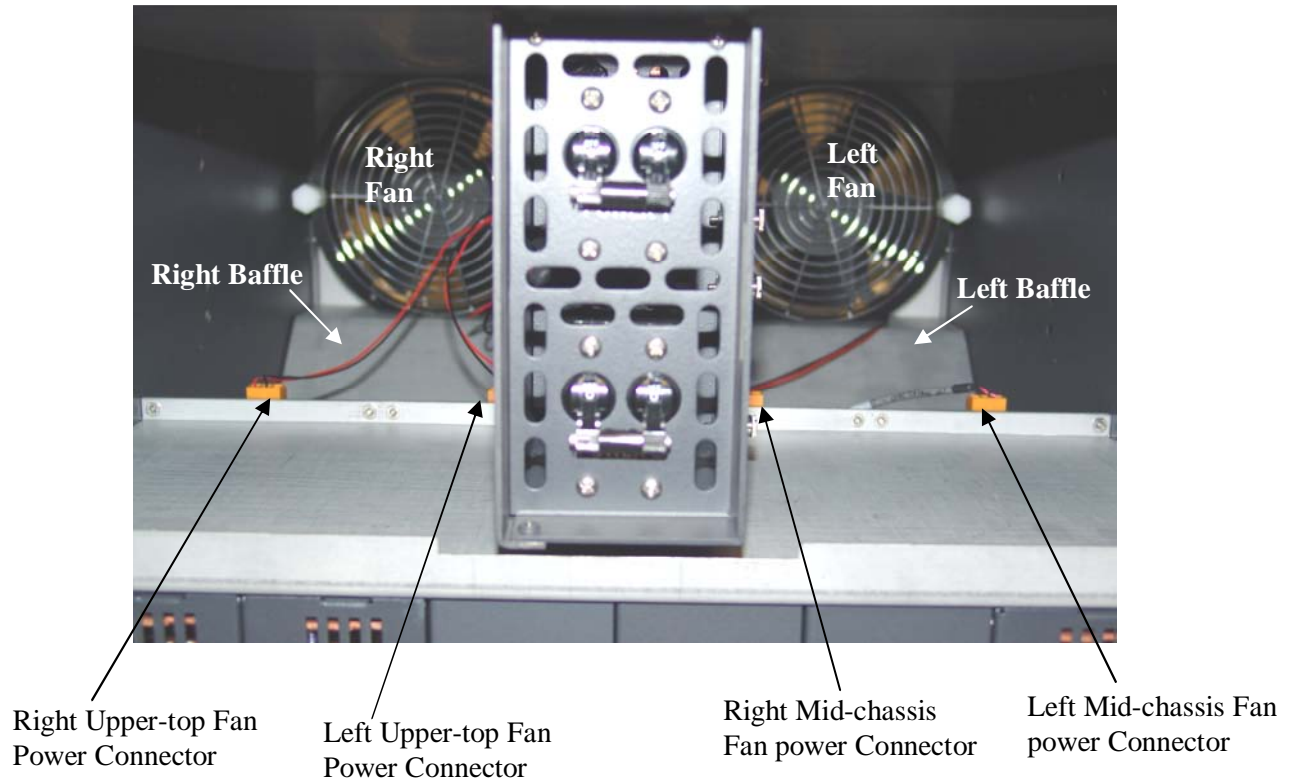

FIGURE 95: Earlier Cheetah Series Fan Power Disconnects
1. Remove the filter/breaker panel assembly to access the upper top fan power connections and fan assemblies (see Figure 95).
2. Disconnect the fan power cord from the corresponding power connector located in the left side of the filter/breaker chamber (see Figure 95).
5. Reconnect the fan power cord to the corresponding power connector (see Figure 95).
These fan assemblies are installed behind specific airflow baffles (see Figure 95) that direct the airflow for maximum efficiency. The baffles must be removed before you can access the fan assemblies for replacement.
1. Remove the filter/breaker panel assembly to access the upper bottom fan baffle plates and fan assemblies (see Figure 95).
2. Remove the specific baffle assembly (see Figures 95 and 96) associated with the fan that is to be replaced by loosening the baffle assembly's retaining thumbscrew and carefully, direct the baffle assembly through the front of the chassis.
2. Disconnect the fan power cord from the corresponding power connector located in the right side of the filter/breaker chamber (see Figure 95).
7. Reconnect the fan power cord from the corresponding power connector located in the right side of the filter/breaker chamber (see Figure 95).